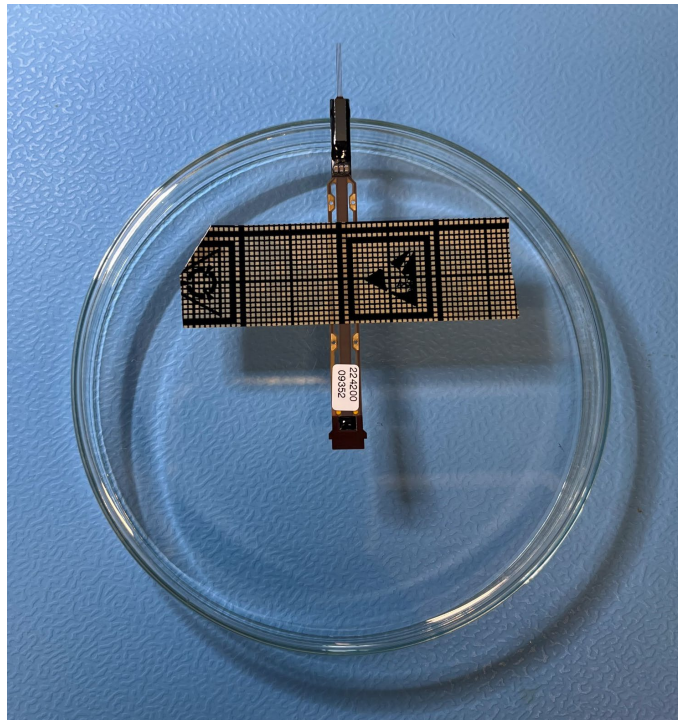

Figure 42: Fixing the probe before soldering.
- Fix the probe to a clean surface. A good method is to use ESD tape. (Figure 42)